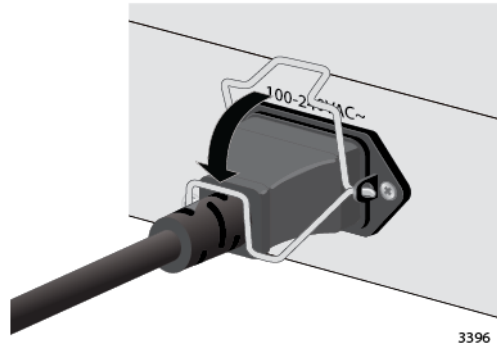

Figure 47. Lowering the Retaining Clip
4. Lower the retaining clip to secure the power cord to the switch. See Figure 47 on page 77.